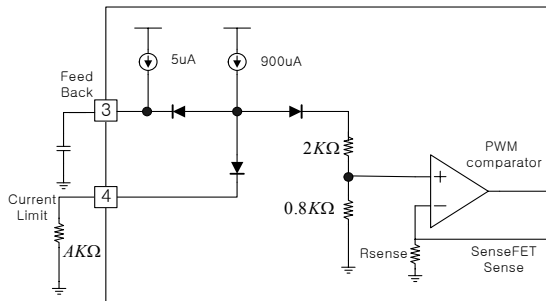

Figure 12. Peak current adjustment
8. Adjusting Current limit function: As shown in fig 12, a combined $2.8\text{k}\Omega$ internal resistance is connected into the non-inverting lead on the PWM comparator. An external resistance of A on the current limit pin forms a parallel resistance with the $2.8\text{k}\Omega$ when the internal diodes are biased by the main current source of $900\mu\text{A}$.